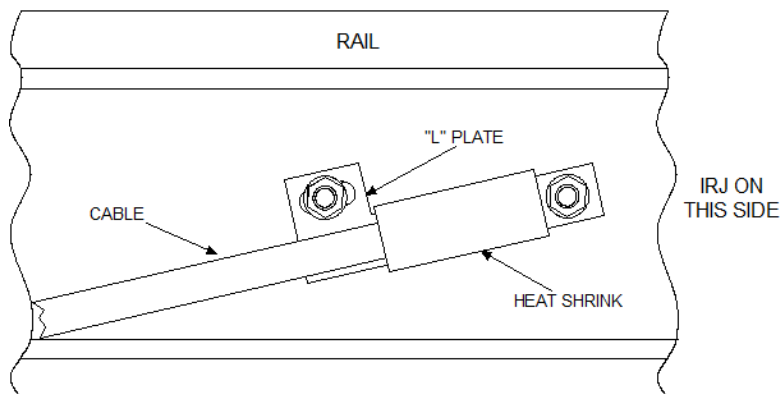

Figure 6 - "L" Plate Connector
- Strip back the cable as shown in figure 6. Fit the correct size crimp terminal and crimp it firmly.